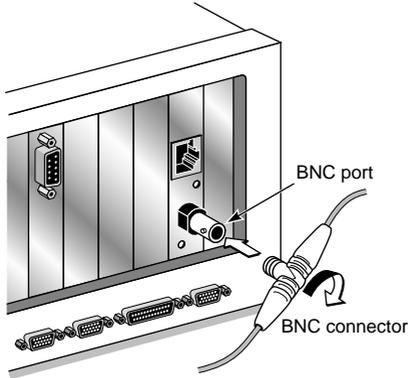

Figure 1-4 Connecting to the BNC Port on the 3C509B-TPC NIC
- 1 **Connect the BNC connector on the thin Ethernet coaxial cable to the BNC port on the NIC.** See Figure 1-4.